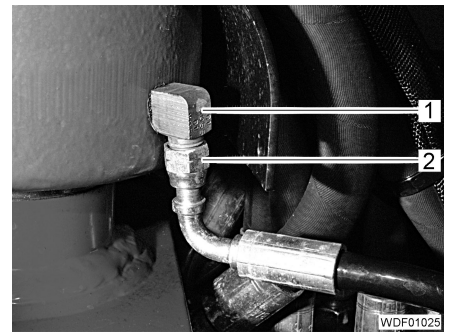

Fig. 351 Connection of the remote lubrication line
- Screw in the angle screw connection (Fig. 351,1).
- Screw the remote lubrication line (Fig. 351,2) onto the angle screw connection and tighten.